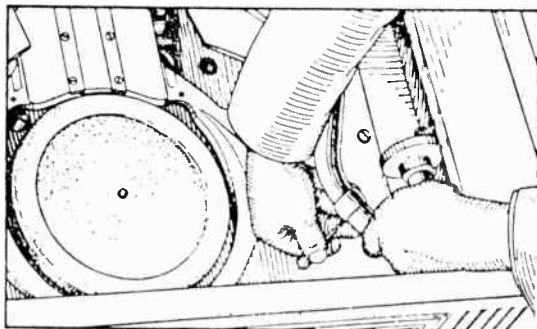

Fig. 3 - Adjusting Crook Stop
b. Examine the sound box or pick-up crook stop. Loosen the lock nuts and turn the stop screw, which is an eccentric, until the proper lowering has been obtained. Re-tighten the lock nut (see Fig. 3.)